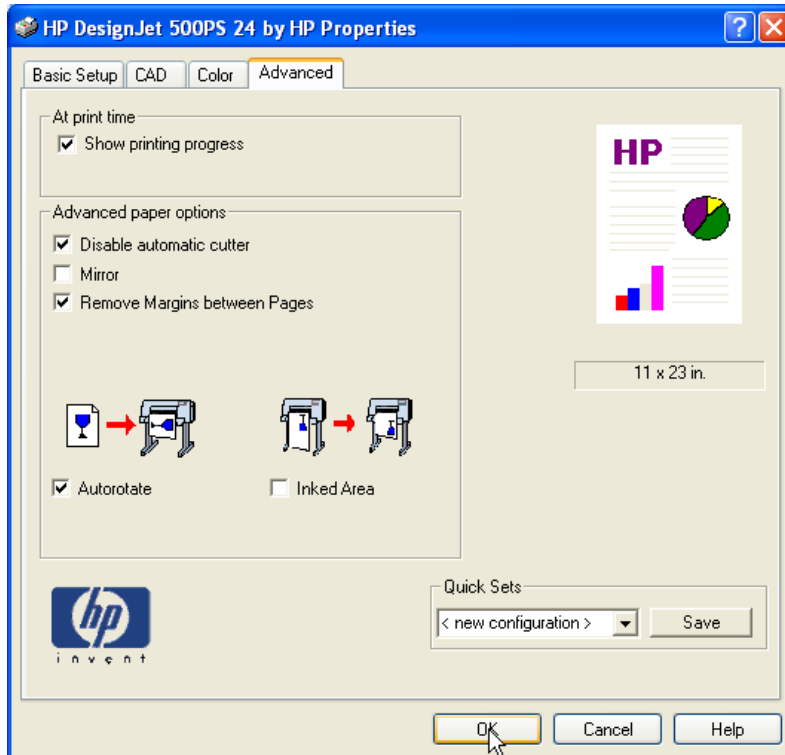

Figure 3
10.) Power*Curve printing (landscape page orientation). Now **click** on the **Advanced** tab to define the final output of your log. There are several things you can do here. Disable the cutters for a horizontal log, remove the page margins and auto rotate the image to print a continuous log and waste a log of paper. **Figure 3** Or none of the above to save paper **Figure 4**.